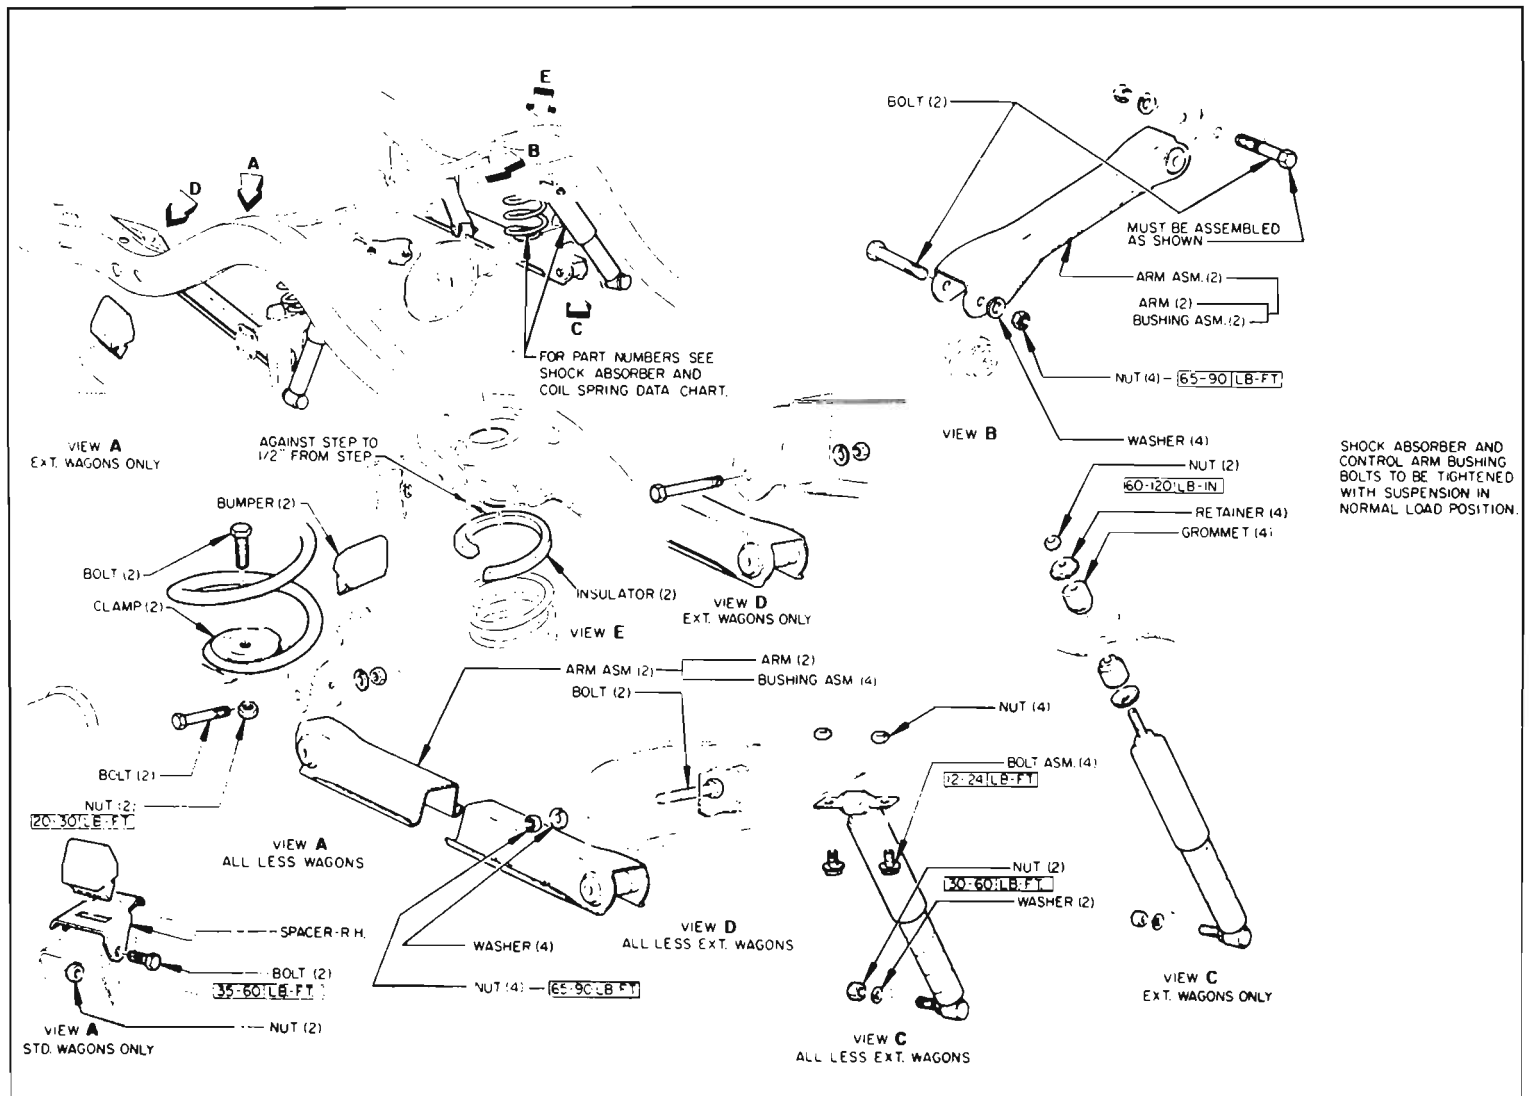

Figure 7-31—Rear Suspension Details
4. Check arm and bushings for obvious damage. Replace if necessary. See Figure 7-31.
1. Position arm in place and attach as shown in Figure 7-31. Torque front and rear attaching nuts and bolts to 78 ft. lbs.
2. Disconnect control arm at carrier housing by removing attaching nut, lock washer, and bolt. See Figure 7-31.
1. Attach arm at the frame with nut, lock washer, and bolt. Torque to 78 ft. lbs. See Figure 7-31.
2. Attach arm at bracket on carrier with nut, lock washer, and bolt. Torque to 78 ft. lbs. See Figure 7-31.